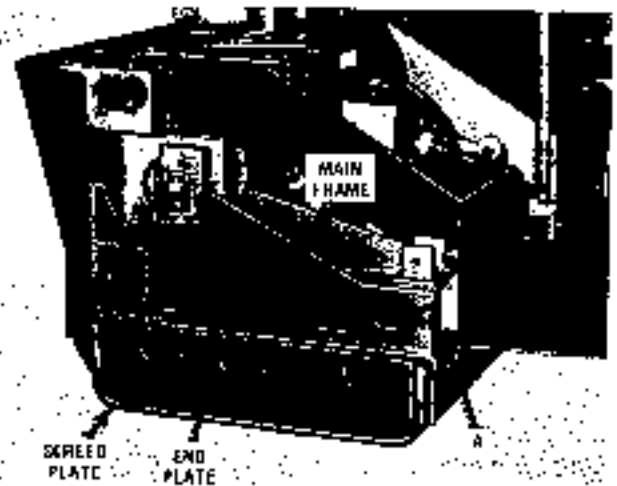

FIGURE F-31 — Screed Plate
SCREED PLATES (Refer to Figure F-31)
TO REVERSE PLATE (Refer to Figure F-31)
Remove capscrews (A) holding screed plate to main frame. (Refer to Figure F-31). Raise the screed frame, reverse the two screed plates as a unit and reinstall cap screws. Torque screws to 100 ft. lbs.